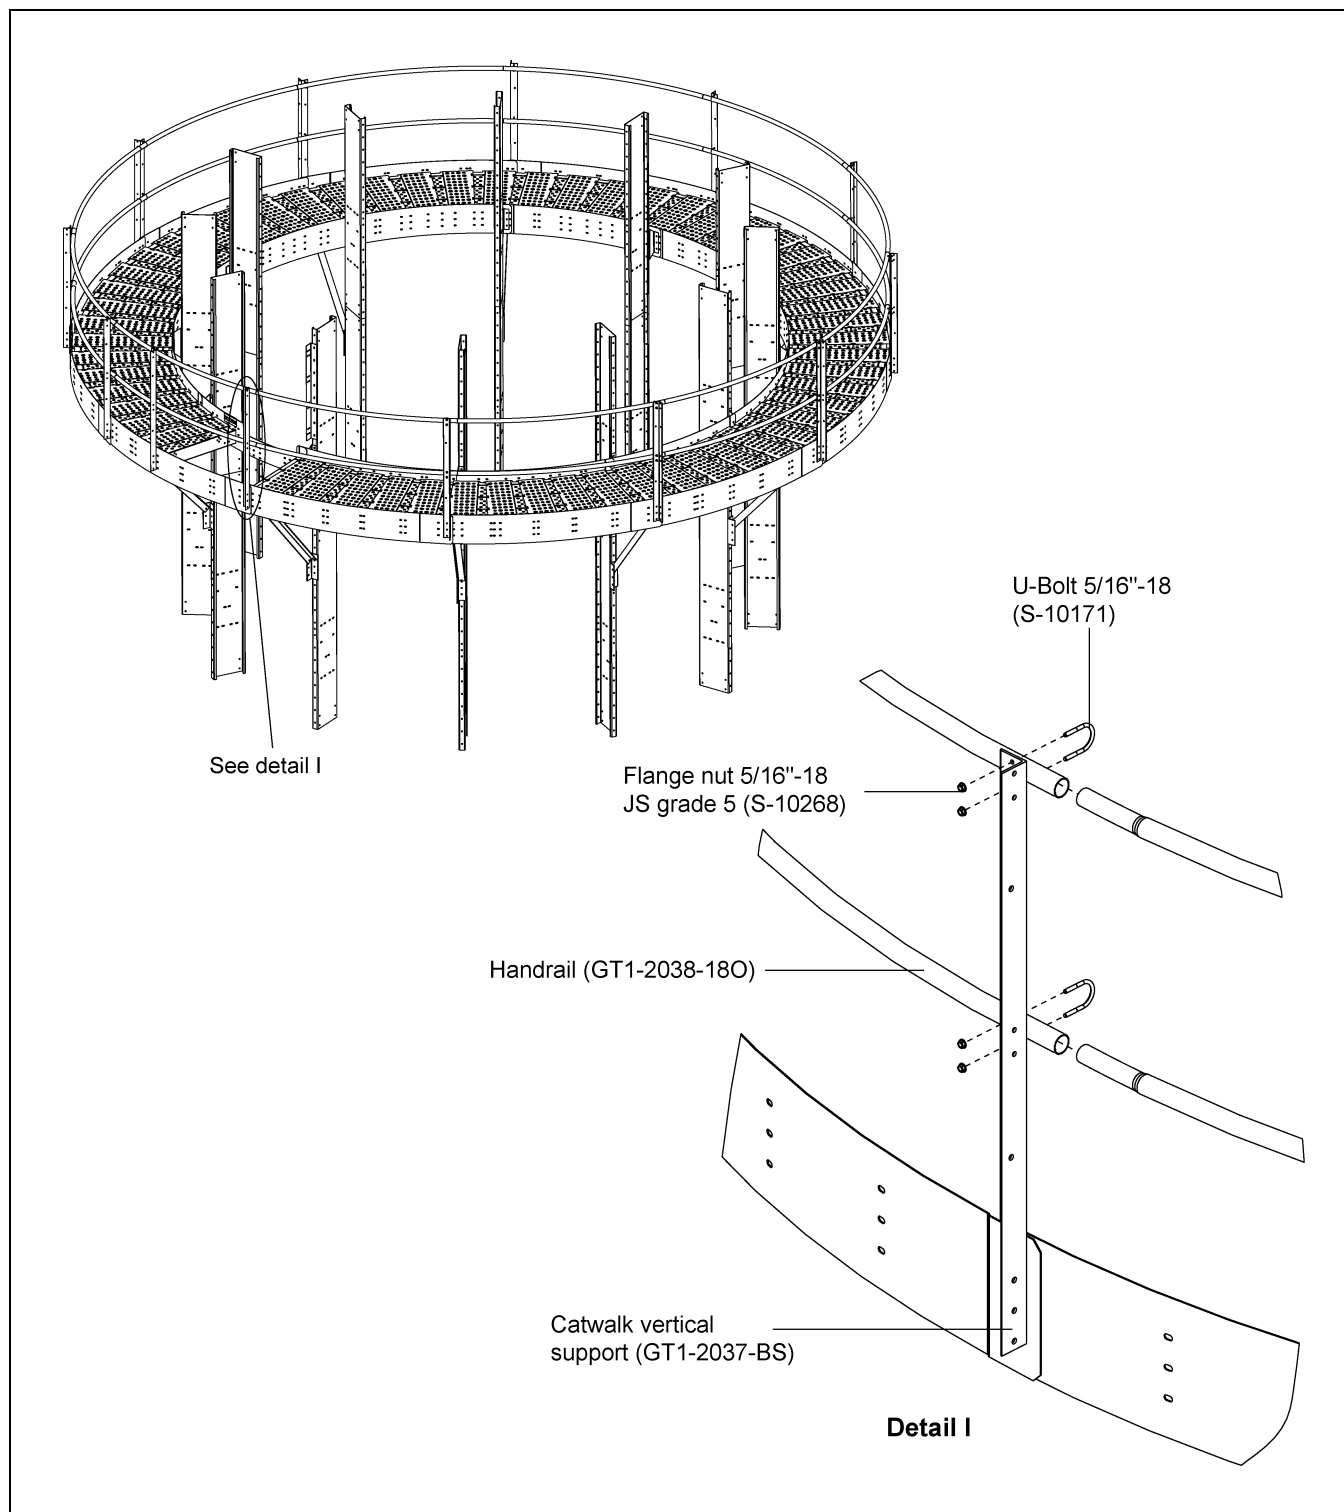

Figure 4U
1. Install the handrail (GT1-2038-18O) to the catwalk vertical support (GT1-2037-BS) using 5/16"-18 ZN U-bolts (S-10171) and 5/16"-18 JS grade 5 nuts (S-10268) to tighten the handrail with vertical post. \(See Figure 4U.\) \(See Page 27.\)